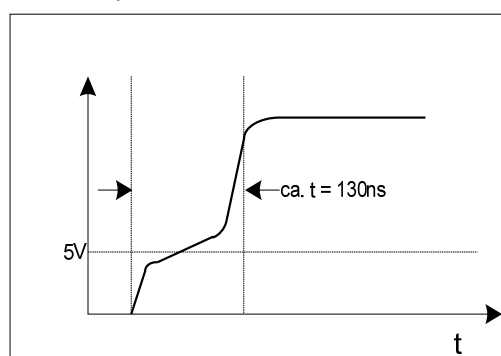
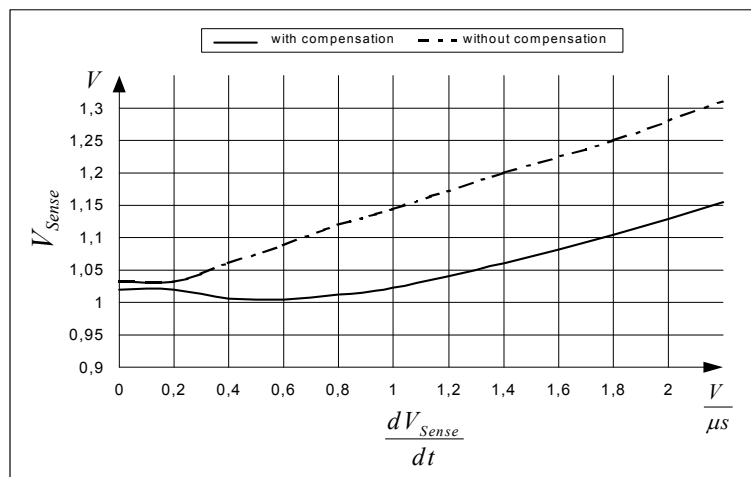

Figure 15 Soft gate drive waveform
Figure 19 Propagation delay compensation curve
The gate soft driving is to split the gate driving slope into 2 so that the MOSFET turns on speed is relatively slower comparing to a single slope drive (see Figure 15). In this way, the high $\Delta I/\Delta t$ noise is greatly reduced and the noise signal reflected in the EMI spectrum is also reduced.
The maximum power of the system is changed with the input voltage; higher voltage got higher maximum power. This is due to the propagation delay of the IC and the different rise time of the primary current under different input voltage. The propagation delay time is around 200ns. But if the primary current rise time is faster, the maximum power will increase. The power difference can be as high as >14% between high line and low line. In order to make the maximum power control become tight, a propagation delay compensation network is implemented so that the power difference is greatly reduced to best around 2%. Figure 19 shows the compensation scheme of the IC. The equation (8) explains the rate of change of the current sense voltage is directly proportional to the input voltage and current sense resistor. For a DCM operation, the operating range for the $\frac{dV_{sense}}{dt}$ is from 0.1 to 0.7. It can show in Figure 15 that higher $\frac{dV_{sense}}{dt}$ will give more compensation; i.e. lower value of V_{sense} .